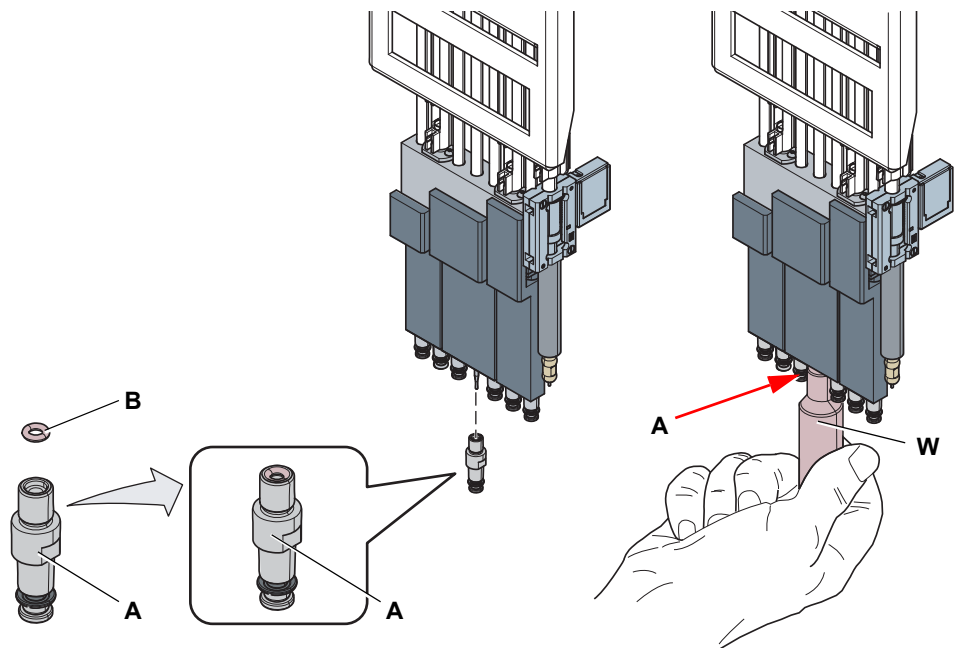

Fig. 7-8 7-tip array, DiTi cone installation
- 5 Apply the O-ring (B) into the DiTi cone (A) Fig. 7-8 , 7-19.
- 6 Install the new DiTi cone (A) onto LiHa pipetting head with the DiTi cone key (W) Fig. 7-8 , 7-19.